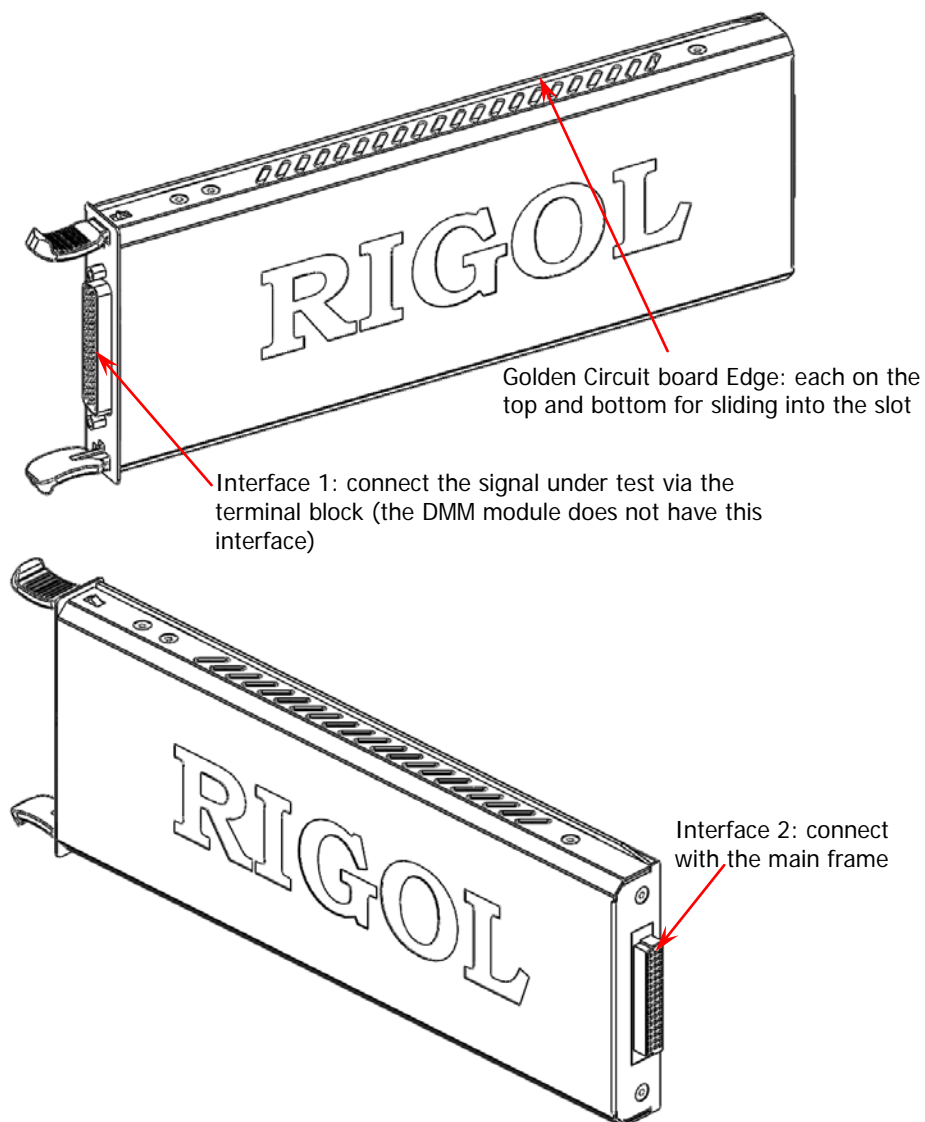

Figure 6 Outside View Drawing of the Module
As shown in Figure 6, there is a golden circuit board edge both on the top and bottom of the module. Aim the two edges with the sliding chutes (as pointed out by the arrows in the figure below) in the main frame slot and push the module in until you hear a sound. At this point, interface 2 is connected to the main frame.
3. Connect the terminal block to the module via interface 1 (the interface definition is in Figure 6) on the module and screw down the two screw rods onto the nuts on the module.